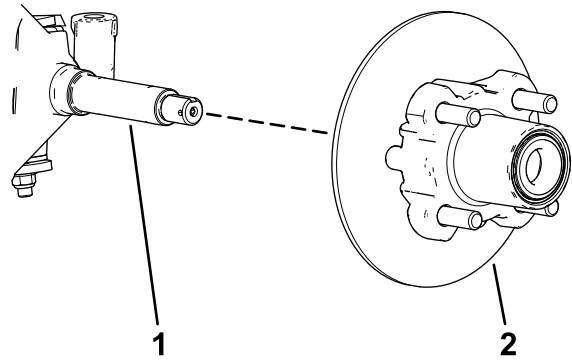
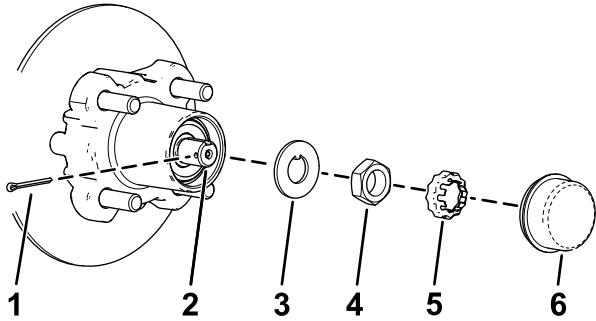

Figure 38
Figure 37
4. Remove the dust cap from the hub (Figure 37).
5. Remove the cotter pin and nut retainer from the spindle and spindle nut (Figure 37).
6. Remove the spindle nut from the spindle, and separate the hub and rotor assembly from the spindle (Figure 37 and Figure 38).